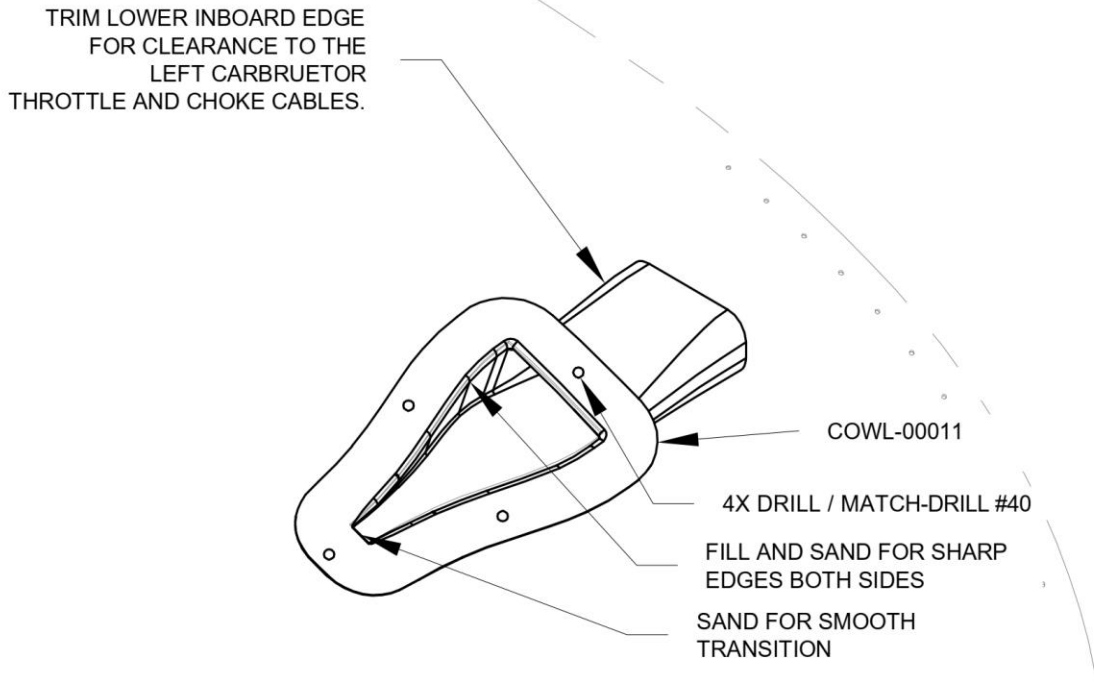

FIGURE 1: BOND DUCT TO COWLING
Step 6: Bond the COWL-00011 to the upper cowling using an epoxy floc mixture. A few #40 holes and wax coated clecos work well to hold position and clamp force until the epoxy is cured enough to be "rubbery". See Figure 1.
Step 7: Fill the edges of the COWL-00011 to cowl interface to make a nearly sharp corner along the sides as indicated in Figure 1. Fill and sand to provide a smooth transition from the cowl surface to the duct. Finish and paint as desired.